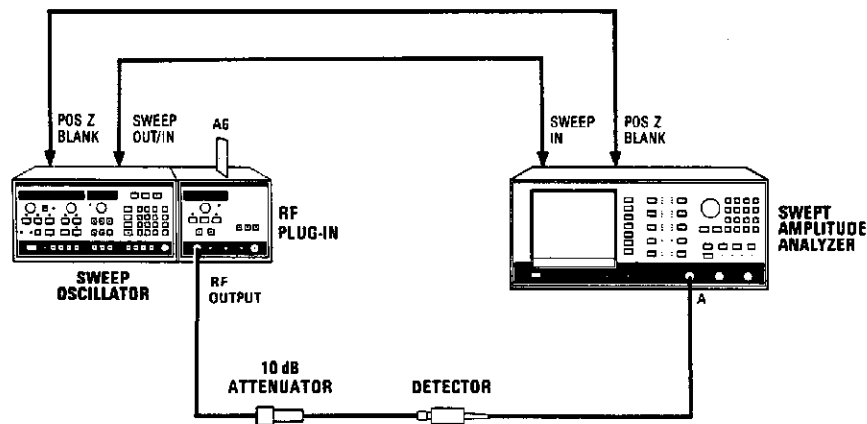

Figure 5-17. Slow Speed YTM/YTF to YO Tracking Test Setup
1. Connect the equipment as shown in Figure 5-17 with the Model 83592C A6 Sweep Control Board on tan extender. Allow the equipment to warm up for one hour.
1. Connect the equipment as shown in Figure 5-17 with the Model 83592C A6 Sweep Control board on an extender. With the LINE power OFF, remove the Model 83592C A4 ALC board. Connect the HP 8756A MODULATOR DRIVE output to the Model 83592C rear-panel PULSE IN connector.